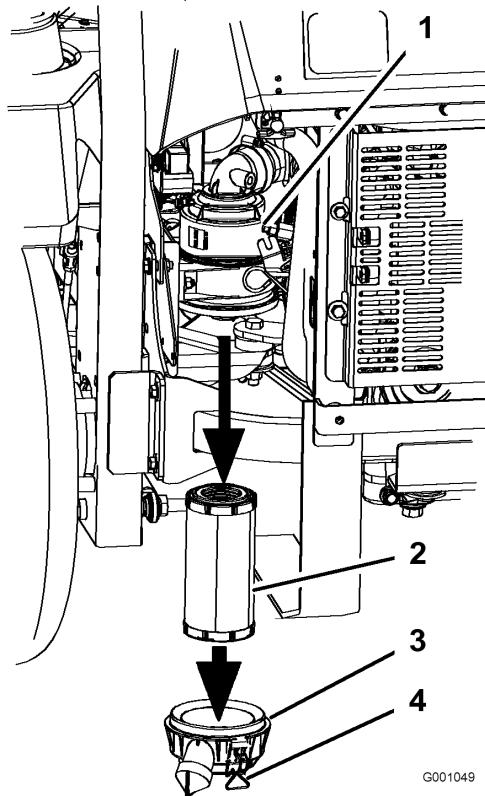

Figure 27
3. Release the latches on the air cleaner and pull the air cleaner cover off of the air cleaner body (Figure 27).
5. Gently slide the filter out of the air cleaner body (Figure 27). Avoid knocking the filter into the side of the body.